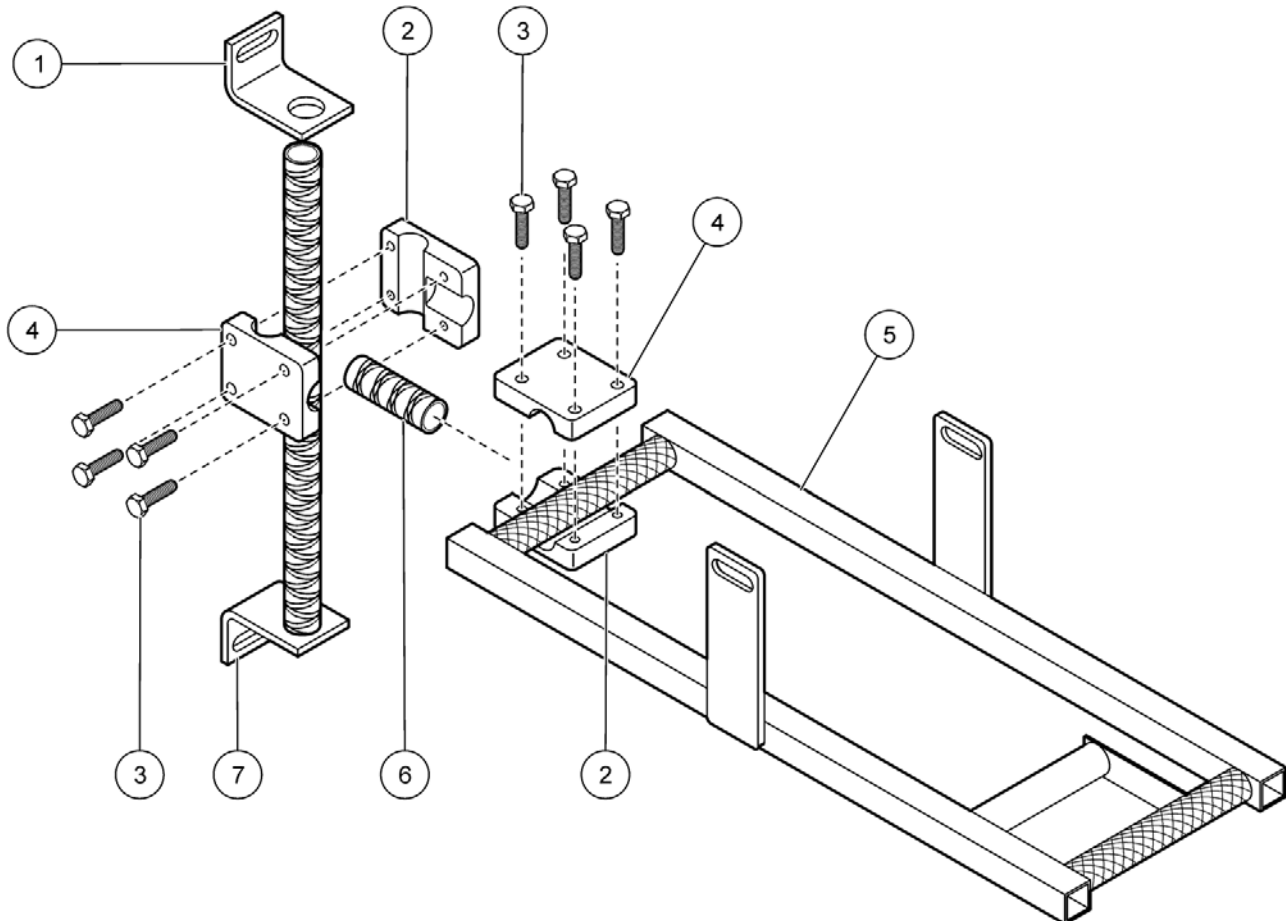
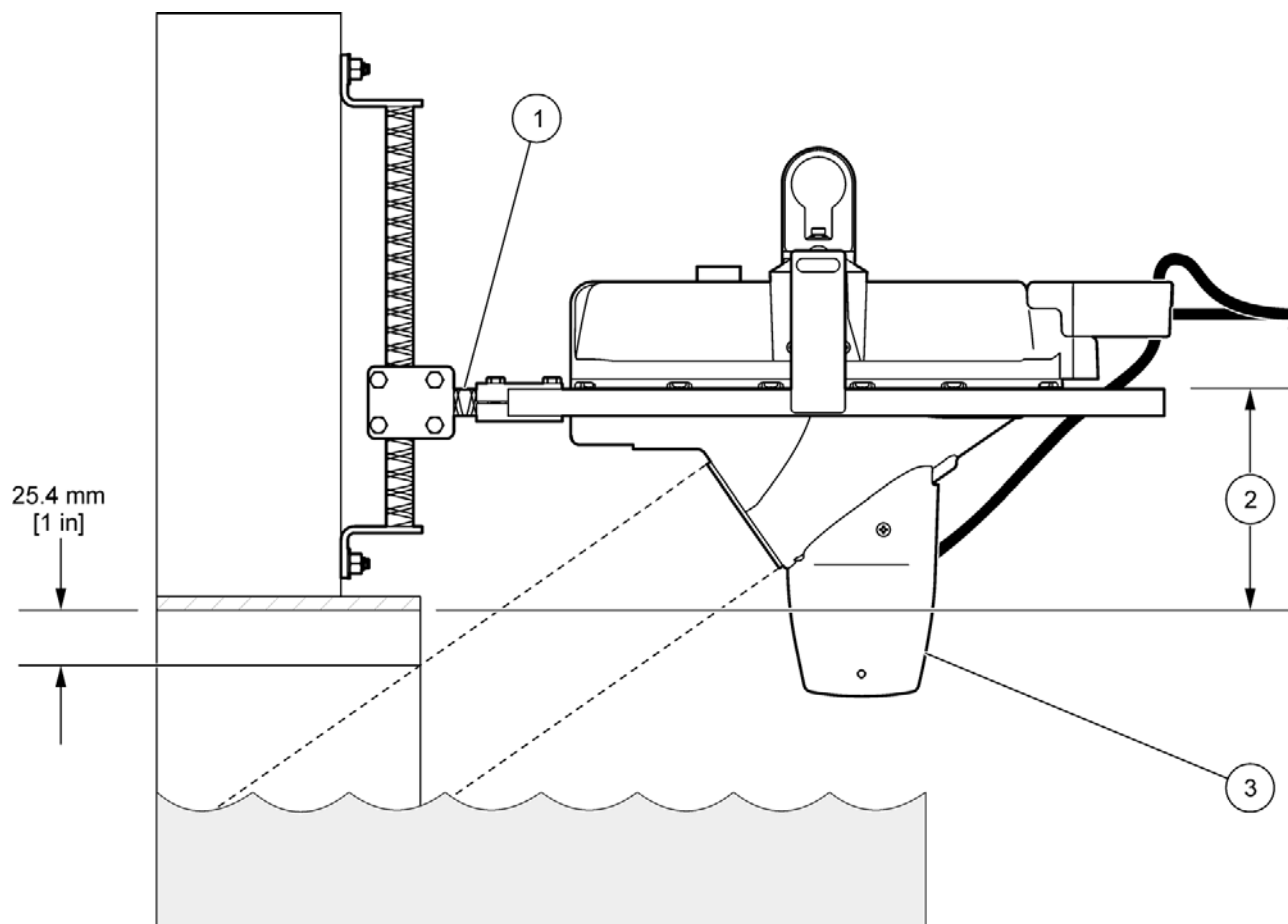

Figure 8 Clamps assembled on wall bracket and frame
Figure 12 Vertical alignment of Flo-Dar sensor with SVS
1. Position two clamp halves (one with threads and one without threads) around the wall mount bracket as shown in Figure 8.
- Position the other two clamp halves around the front end of the frame as shown in Figure 8.
**Note:** In most cases the front of the frame will point toward the wall as shown in Figure 8 (see also Figure 12 on page 23). If flow conditions require the sensor to point away from the wall, use the 12 inch spacer and position the two clamp halves around the back end of the frame.
2. If the pipe lip is longer than 5½ inches, install the 12 inch spacer between the wall mount bracket and the frame (Figure 12).